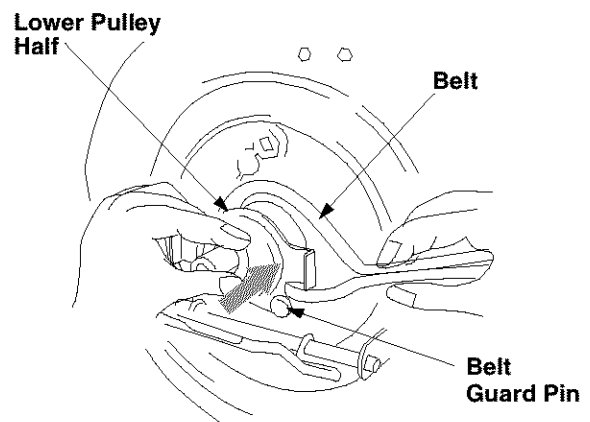

Figure 23
- Pinch both sides of the belt together so that the belt is not in the pulley groove, and the lower pulley can be pushed towards the engine. See Figure 23.